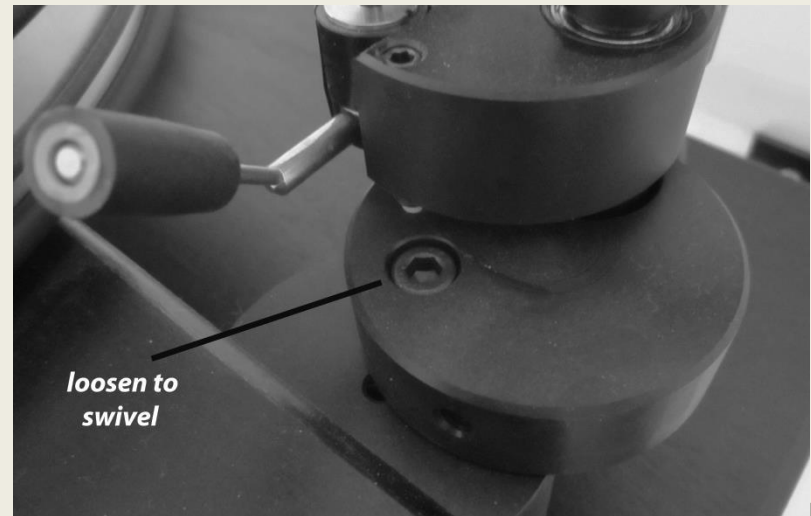

Fig.3
8. Swivel the arm base to obtain the correct overhang of the cartridge then tighten the bolt with the supplied Allen key (Fig.3). Do not over tighten – just enough to hold it in place.